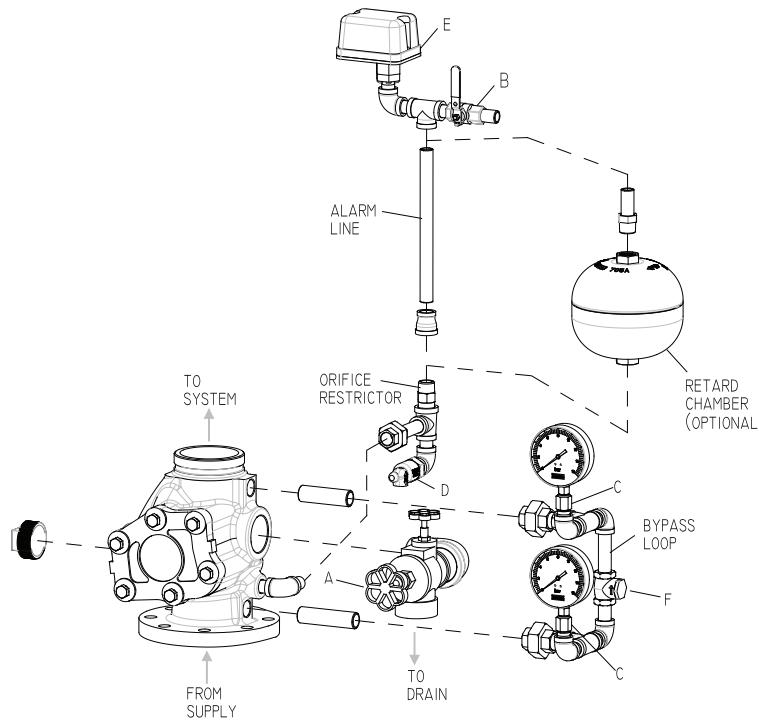

Fig. 2
Legend for Fig. 2
Flow of water in the system piping resulting from the discharge through one or more fused automatic sprinklers causes the clapper (4) to rise off the valve's seat (3) and permits water from the supply piping to enter the system. The movement of the clapper (4) on the hinge pin (8) uncovers the groove in Seat (3) and allows water to flow through the groove into the alarm line and to the retard chamber if installed. (Refer to Fig. 2).
1. The bypass line (Refer to Fig. 2) with check valve allows surges water supply to the system side of the alarm valve's clapper without lifting the clapper off its seat. Repeated surges build up an effective excess pressure in the system, which steadies the clapper and reduces false alarms.
Verify that all trim parts are installed according to Fig. 2 and that there are no leaks. Close the Test and Drain valve A, and the alarm shutoff valve B. Slowly open the main water control valve a few turns until water fills the sprinkler pipe system at a moderate speed. Check the piping system for leaks during and after the filling process. When both gauges in the trim indicate the preset operating pressure and the flow of water has stopped, fully open the main water control valve and secure it in this position. After this the pipe system must be vented carefully. Open the alarm shutoff valve B and drain any water present in the alarm line by depressing the plunger of the Ball Drip valve D.
- a. Drain the system by opening the Test and Drain valve A (Refer to Fig.2).
- b. Remove the cover (2), shaft pipe plug (14), hinge pin (8) and clapper assembly (4).
4. **Note:** Hold down the spring (13) when removing the hinge pin (8).
1. Replace the clapper assembly on the seat. Insert the hinge pin (8) in the valve and pass it through one of the bearings of the clapper. (4) Press and hold spring (13) securely in position between the clapper arm bearings and push the clapper arm shaft through the spring coils to the far side of the valve - Replace the shaft pipe plug (14).
3. Replace the cover (2), being sure that the cover gasket (11) is in position and bolts and nuts are securely tightened.
4. Close the Test and Drain valve A (Refer to Fig. 2) Slowly open and seal the main water control valve. Be sure that valve B is sealed in open position.
False alarms are generally caused by pressure surges in the water supply and can occur if the system loses its effective excess pressure (Refer to the "System Setup" section). A visual indication of this condition is given by similar readings on the system and supply pressure gauges. Loss of system pressure can occur as a result of: a leaking test and drain valve, leakage at the alarm valve's brass seat, leakage between the valve's clapper and its mating rubber facing, leakage at any pipe joint downstream in the sprinkler system, or leakage at the bypass check valve. (Refer to Figs. 2 & 3).
In order to find and correct a leak through the bypass check valve, proceed as follows (Refer to Fig. 2):